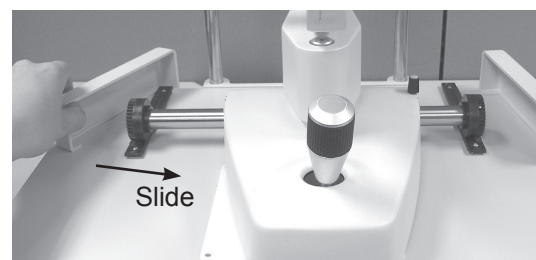

Figure SU-10 Base Install
13. Install the Base Assembly onto the tracks of the Table Top and slide the Guide Rail Covers around the tracks. Refer to Figure SU-10.